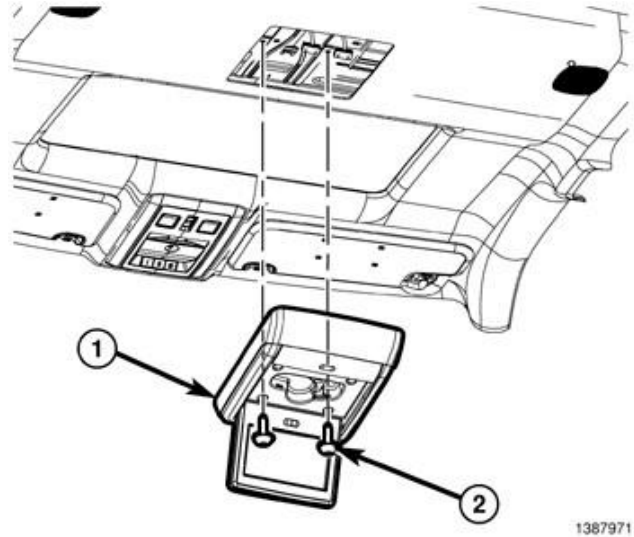
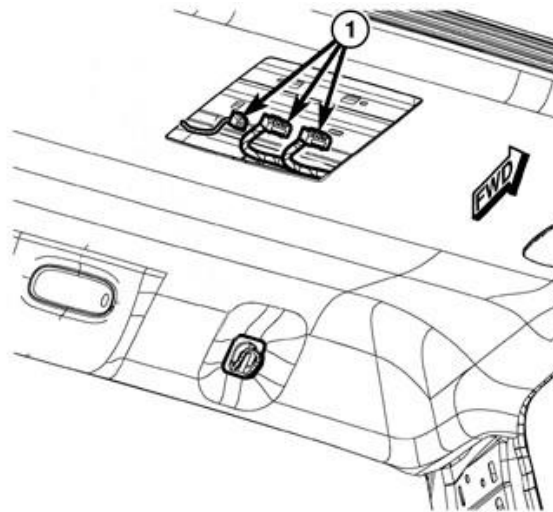

Figure 65 – Rear Seat DVD Monitor
Figure 66 – DVD Monitor Electrical Connectors
- 18. If equipped with DVD monitor, remove the screws (2) and separate the monitor (1) from the roof (Figure 65).
- 19. If equipped with DVD monitor, disconnect the electrical connectors (1) (Figure 66).
45. If equipped with DVD monitor, connect the DVD monitor electrical connectors (1) (Figure 66). Position the DVD monitor to the roof then install and tighten the screws (2) (Figure 65).